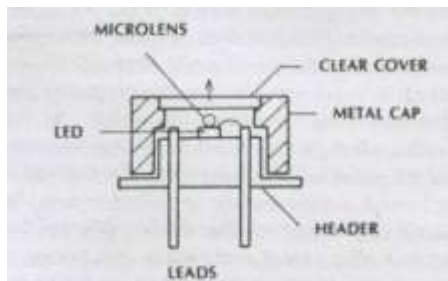

Fig 6.14 Microlensed LED
- Another package is illustrated in Fig. 6-14. In this device a very small lens (a *microlens*) is placed directly on the emitter.